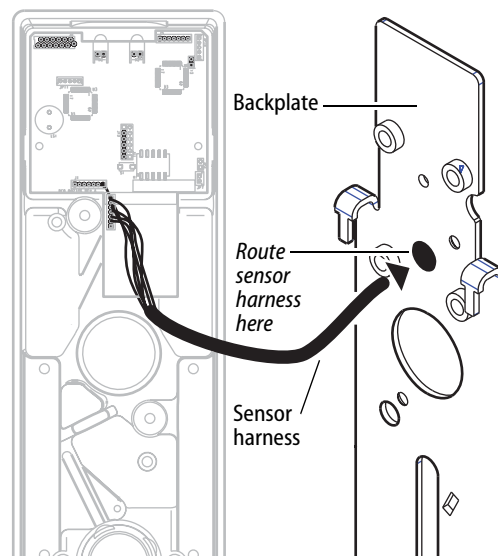

Figure 12 Re-routing the sensor harness for Precision 2100 exit devices
- 4 Re-route the sensor harness out through the alternate wire-routing hole as shown in Figure 12.